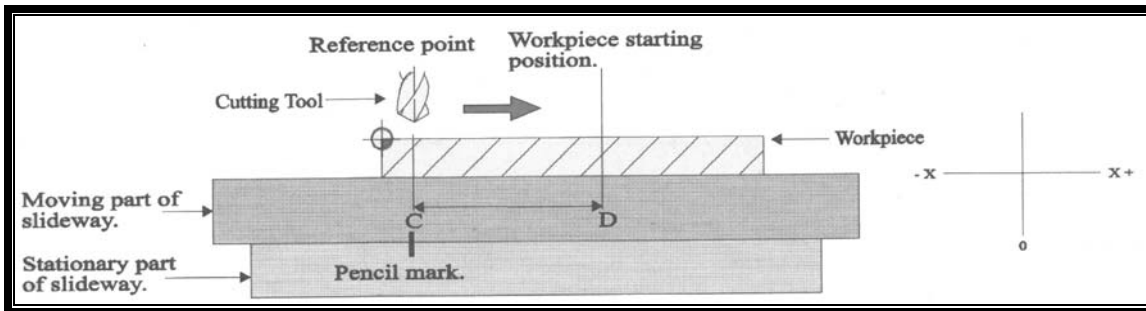

Figure 5 Finding the reference point after a power failure
Figure 5 on page 10 provides a visual representation for finding the reference point after a power failure. Table 10 on page 10 provides an in-depth description on how to achieve the work piece starting point.
7. Referring to the original value written down, regain the work piece starting position by moving the distance measured at initial setup. (Distance C-D in Figure 5 below)	The number displayed indicates the distance C-D